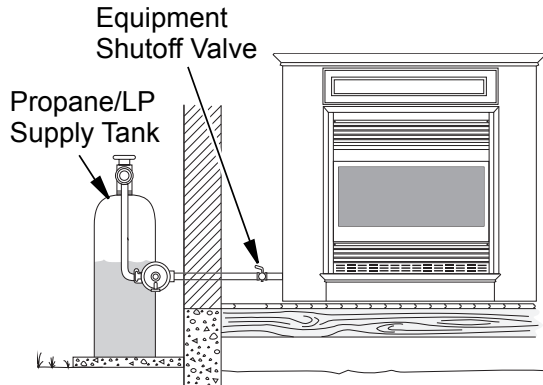

Figure 26 - Checking Gas Joints for Propane/LP Gas (Shown with Optional Mantel)
3. Check all joints from gas meter for natural or propane/LP supply to equipment shutoff valve (see **Figures 26 and 27, Page 21**). Apply a noncorrosive leak detection fluid to gas joints. Bubbles forming show a leak.
4. Check all joints from equipment shutoff valve to thermostat gas valve (see *Figures 26 and 27*). Apply a noncorrosive leak detection fluid to gas joints. Bubbles forming show a leak.